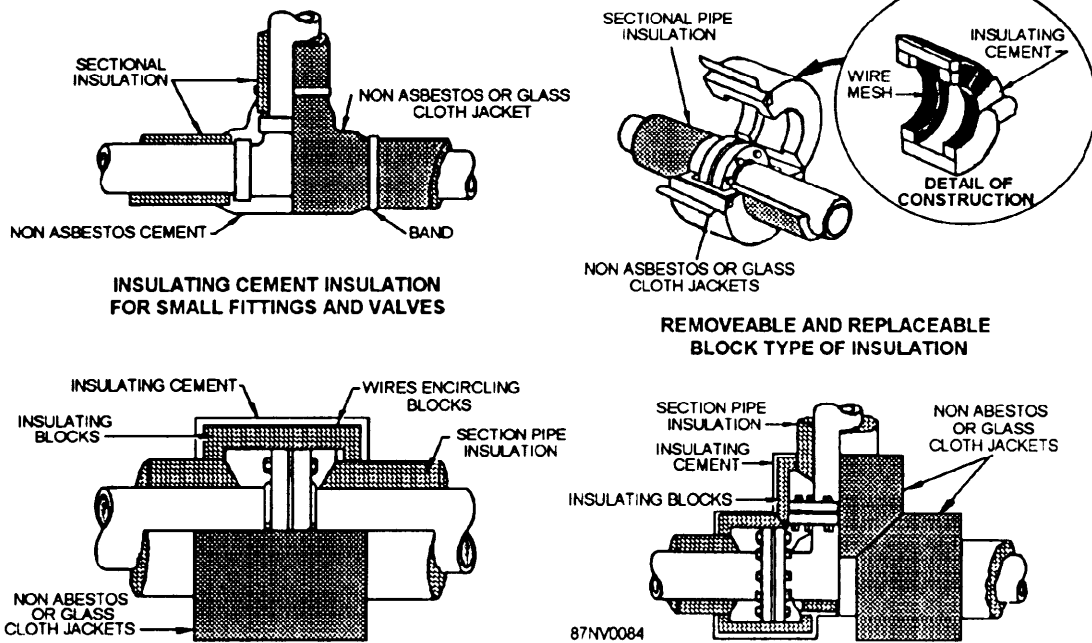

Figure 16-45.—Permanent-type insulation of pipe fittings, flanges, and valves.
- Flanged pipe joints adjacent to machinery or equipment that must be broken when units are opened for inspection or overhaul (fig. 16-45)